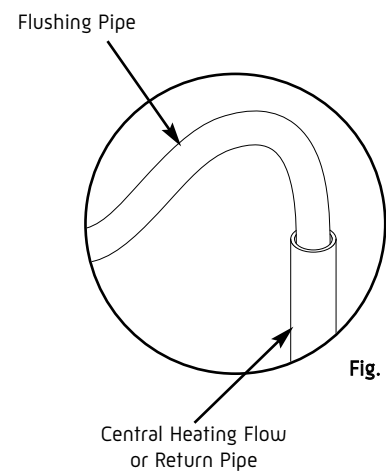

Fig. 30
11. Flush and clean the system using an appropriate cleanser (Fig. 30).
5. Drain, flush and refill the boiler and system in accordance with BS7593 (Fig. 30).